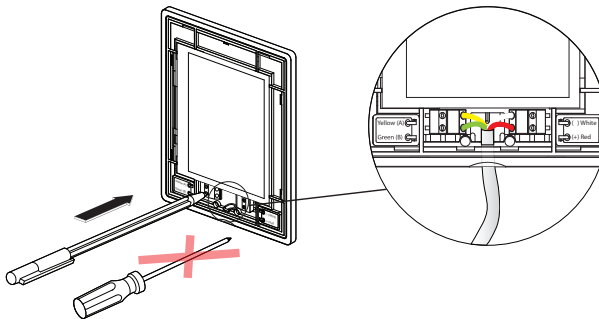

Fig. 23. Cable connection to the control panel
- Control panel (see Fig. 23)
- **Outputs TG1 (6–8)** – Power supply and control signal for a water mixing valve actuator of the external heat exchanger or direct evaporation (DX) cooler/heater. Depending on the “External coil” type selected in the settings (see “Domekt User Guide”), the valve actuator will be controlled by a heating or cooling signal. An external pre-heater for frost protection of the CF heat exchanger may also be connected here.